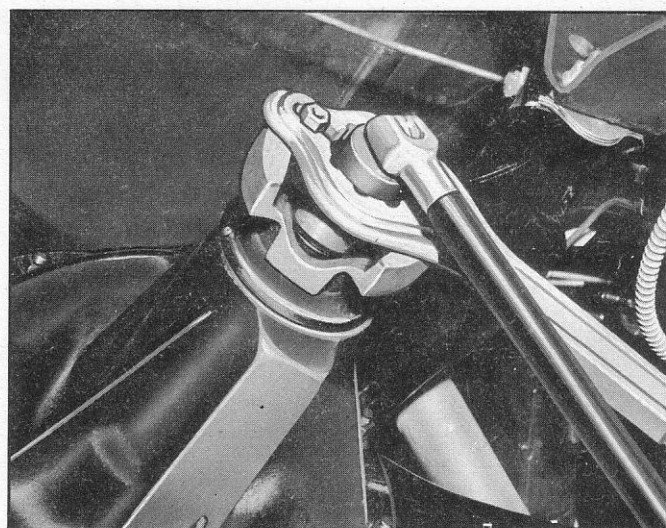

Fig. 15—Removing Companion Flange Nut—J-8614 Shown
4. Holding drive flange with Tool J-8614-1 or J-2637 remove companion flange nut and special washer (fig. 15). Discard nut.